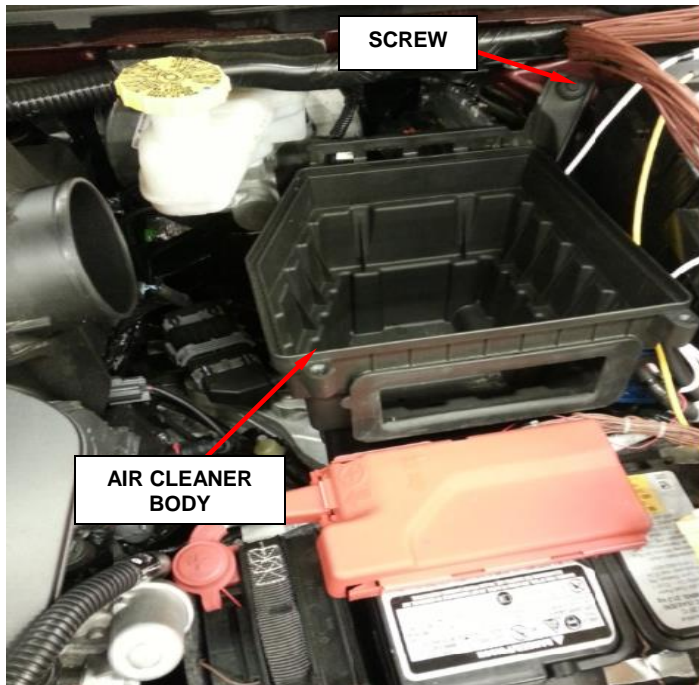

Figure 28 – Air Cleaner
5. Loosen the cover screws and remove the air cleaner housing cover (Figure 28).
7. Remove the screw and pull the air cleaner body straight up to disengage the locating stud from the rubber mount (Figure 28).
16. Install and tighten the air cleaner body screw (Figure 28).